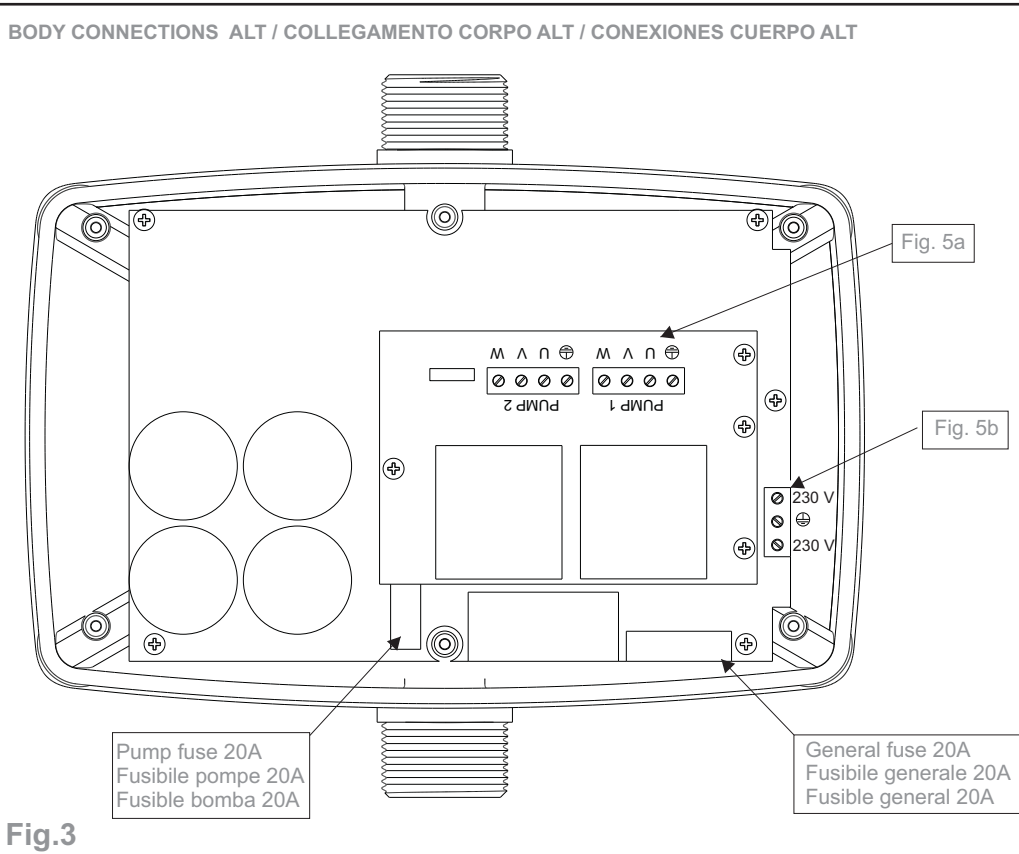

Fig. 3
**ELECTRIC CONNECTION (Fig. 3, 4, 5 and 6)**